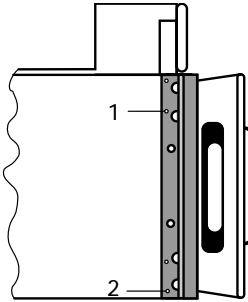

fig. 8
- Remove the protective frame by removing screws 1 and 2 (see fig. 8). Remove the frame and replace screws.